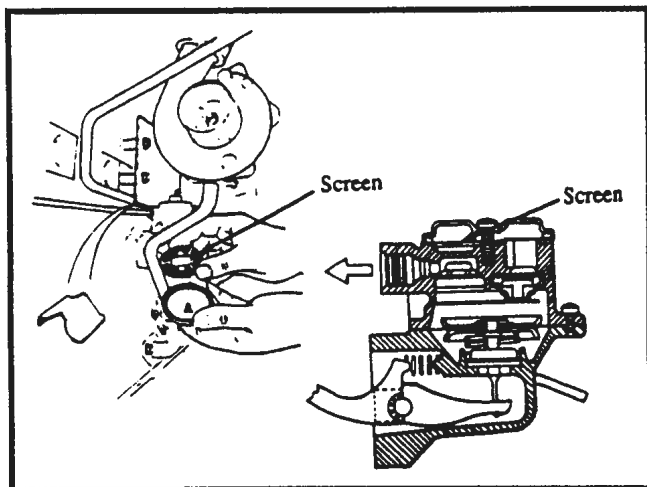

Figure 12-5. Lift Pump Strainer Screen
3. Wash all sediment from the pump, cover, and strainer screen. Inspect the strainer screen for any damage and replace if necessary. Refer to Figure 12-5.